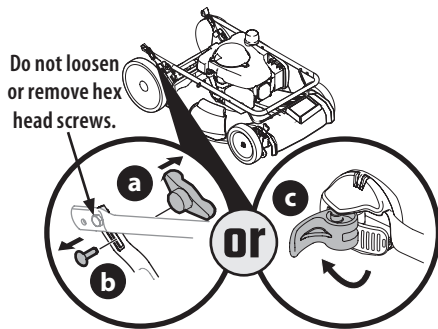

Figure 1
1. Remove knobs or wing nuts (a) and carriage bolts (b) from the handle, or if equipped with the EZ-lock handle (c), proceed to STEP 2 (Figure 1).